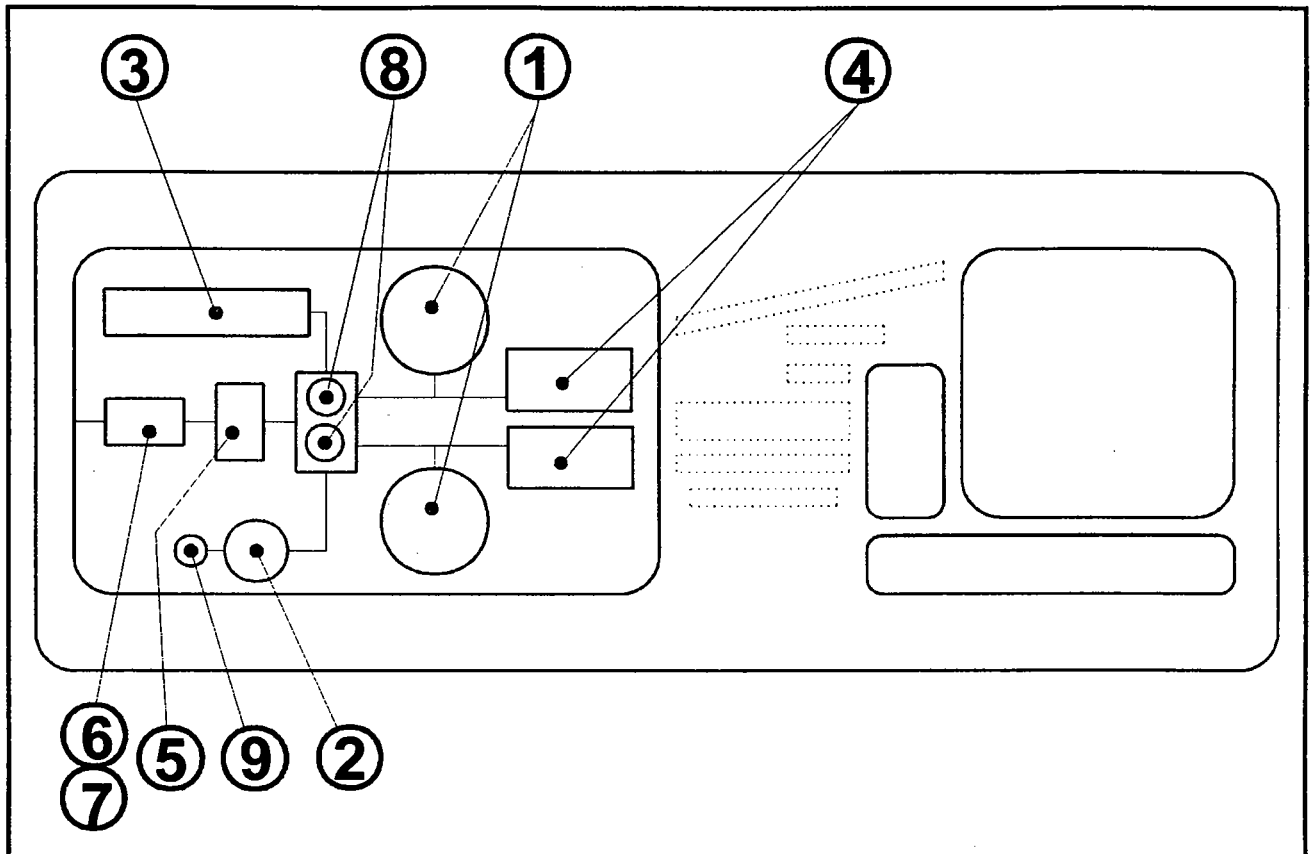

Figure 15.2 – Control Panel Fascia – (refer to Section 15.2)
15.2 Control Panel Spares (refer to Fig. 15.2)